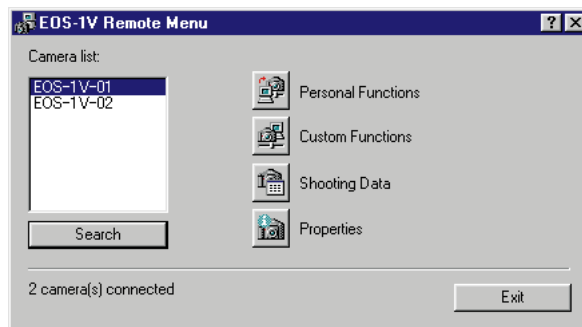

Fig. 1-1 EOS-1V Remote menu.
- ① EOS-1V Remote (Fig. 1-1) enables EOS-1V customization, shooting data downloading, and other functions.